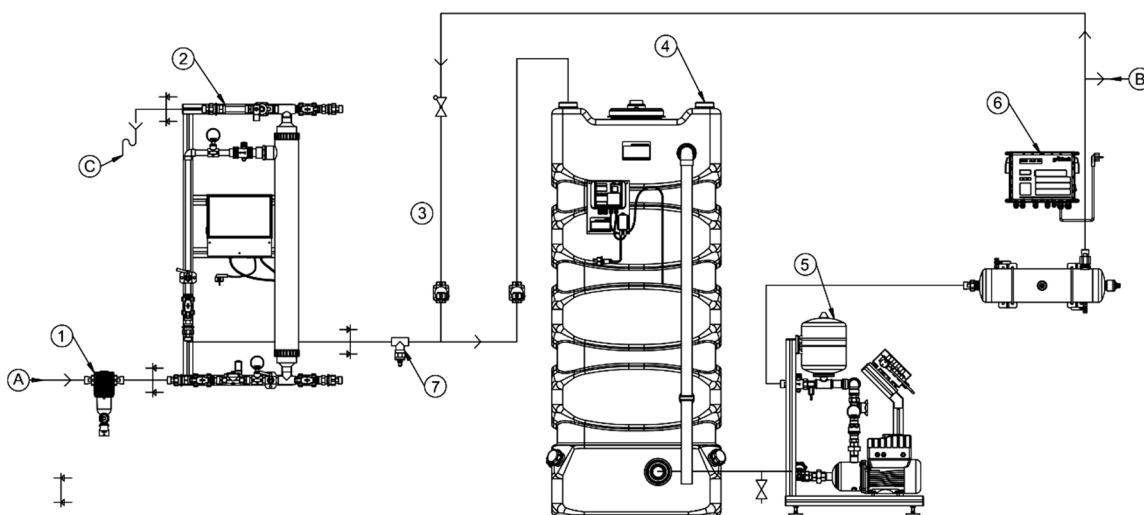
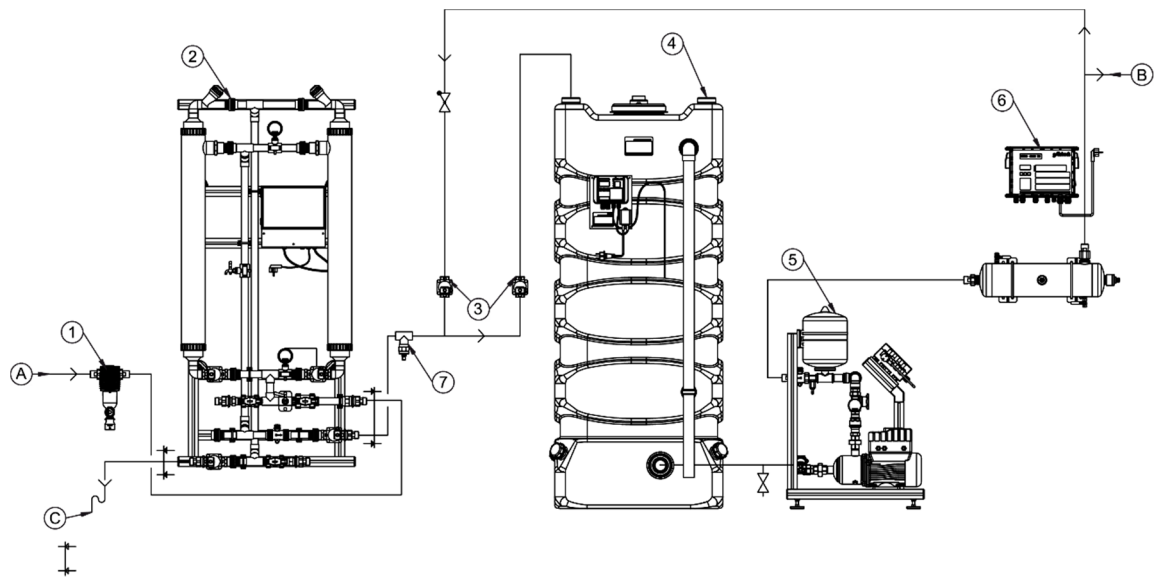

Fig. D-1: Installation drawing GENO®-Ultrafil 450 ultrafiltration system
Fig. D-2: Installation drawing GENO®-Ultrafil 900 ultrafiltration system
When installing the GENO®-Ultrafil ultrafiltration system, certain rules must always be observed. Additional recommendations are given in order to facilitate the handling of the system. The installation instructions described here are illustrated in chapter D-4, Fig. D-1 and Fig. D-2.
- Connect the filtrate outlet to the domestic water installation or to the optional filtrate tank and the backwash valve (refer to flow chart Fig. D-1 or Fig. D-2).
Legend for Figs. D-1 and D-2